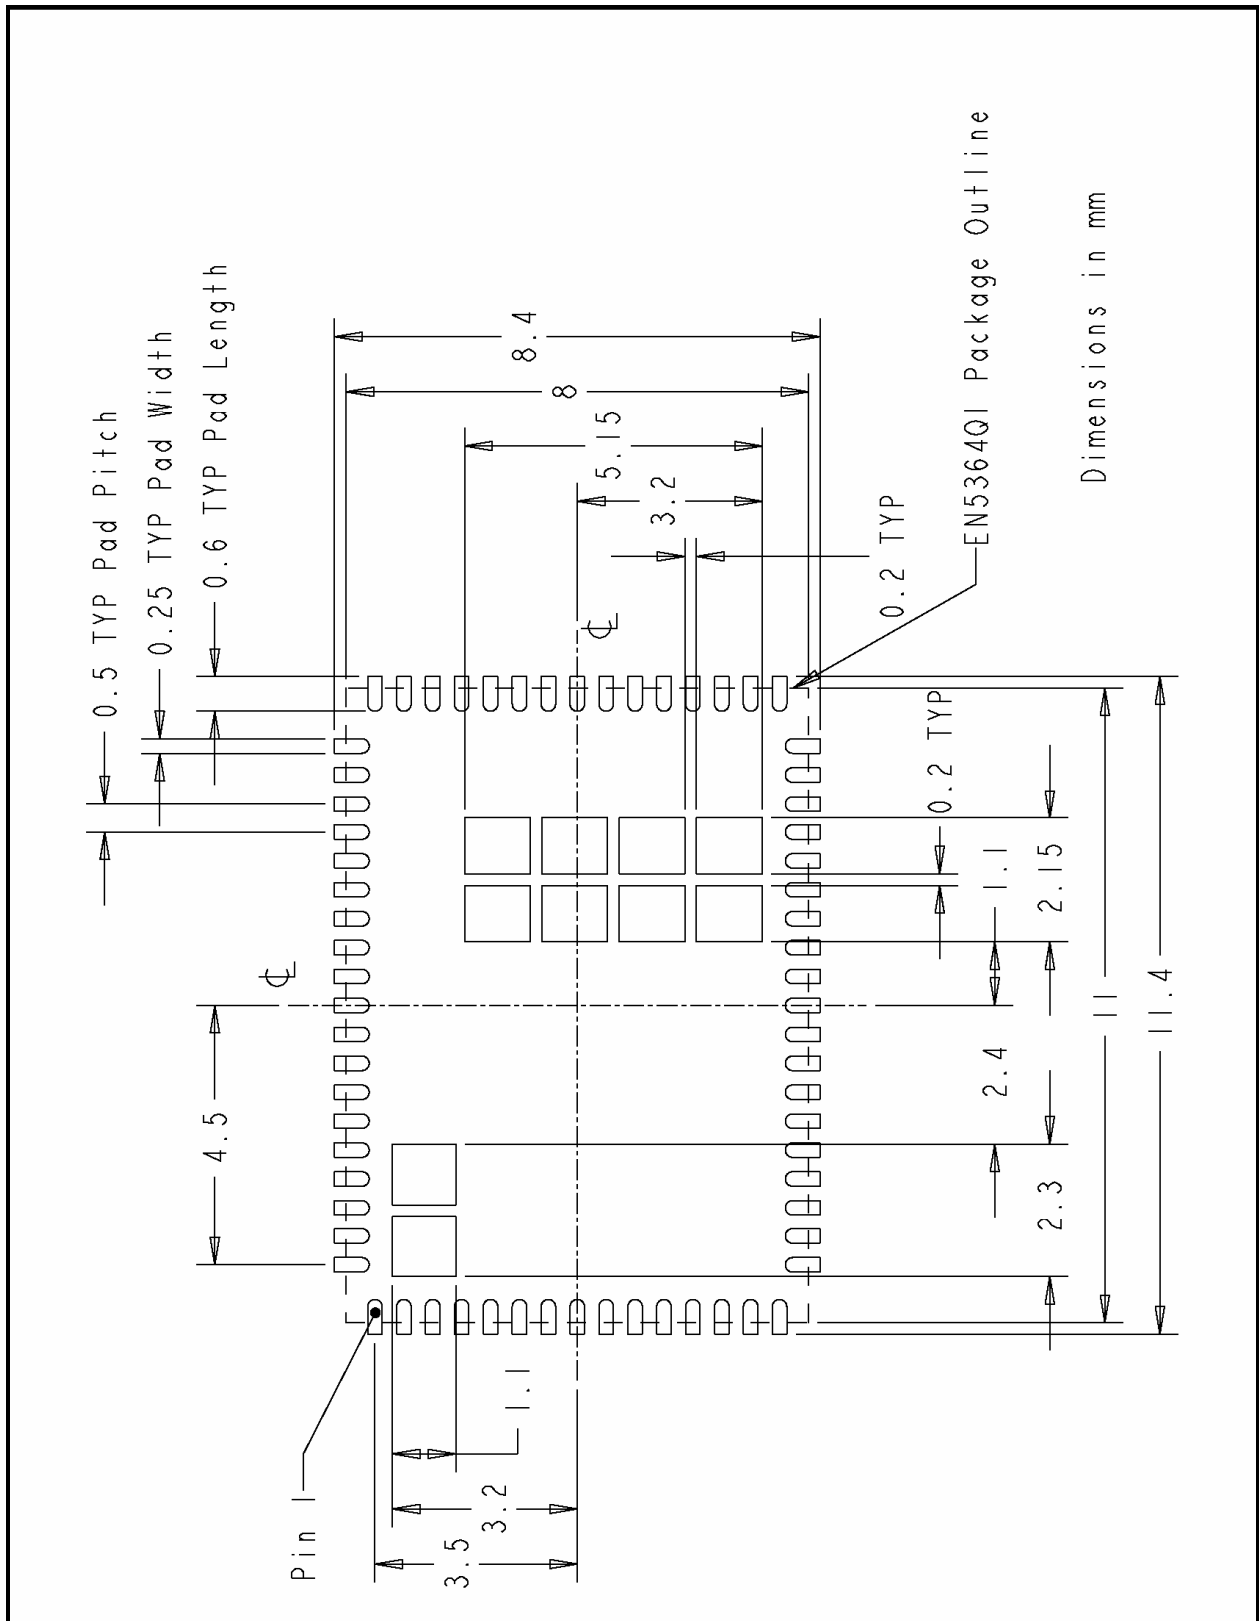

Figure 5 Solder stencil aperture layout for the EN5364QI QFN package
Figure 5 shows the solder stencil aperture layout for the EN5364QI QFN package.
- If open through-hole plated vias are used in the PCB GND pad then the stencil aperture opening should have a size ratio of 0.95:1. Note: the quantity and diameter of the vias will determine the amount of solder that will flow into the vias during reflow reducing the solder volume between the EN5364QI GND pad and the PCB GND pad. The solder stencil aperture layout should use one large aperture opening for the GND pad with dimensions as shown in Figure 5.
- If plugged and capped through-hole vias are used in the PCB GND pad then the stencil aperture opening should have a size ratio near 0.50:1. Note: less solder paste will be required since the vias will not fill with solder during reflow. The solder stencil aperture layout should use ten small aperture openings (known as a window pane solder stencil aperture) for the GND pad with dimensions as shown in Figure 5.